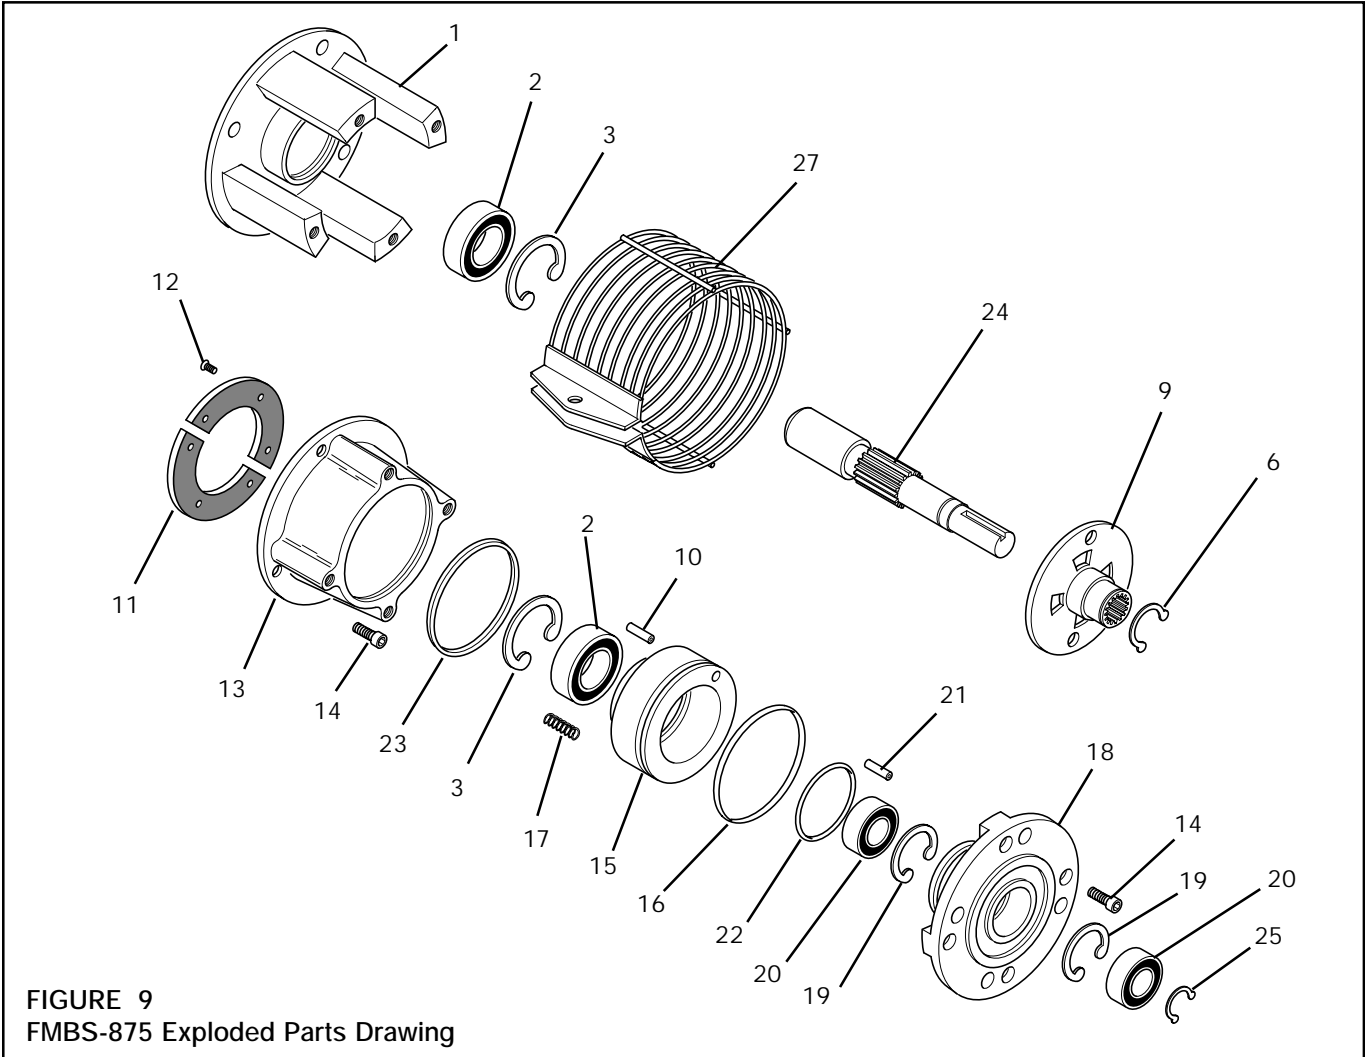

FIGURE 9
8. Apply Loctite® 222 or equivalent to threads of Socket Head Cap Screws (Item 14) securing Male Pilot (Item 18) to Air Chamber (Item 13) (See Fig. 9).
14. Using Socket Head Cap Screws (Item 14), secure Air Chamber/Male Pilot Assembly to Housing (See Fig. 9).